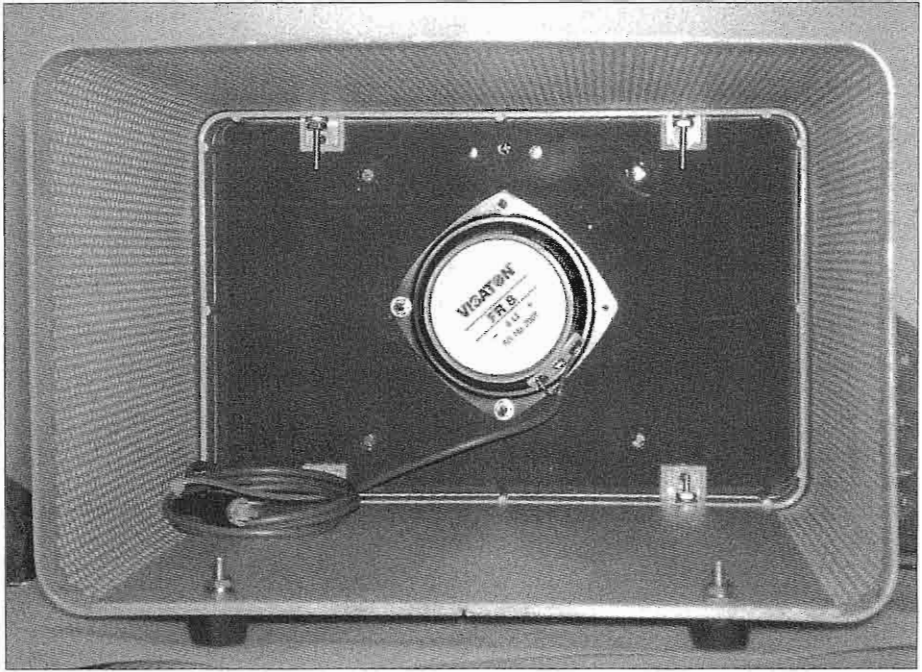

Figure 3: Rear view of the assembled 516F-2 kit.
**Figure 3** is the speaker shown from the rear of the cabinet. Hidden behind the coil of speaker wire on the left of the speaker is a nylon clamp that acts as a strain relief for the speaker wire. Be sure to bolt that clamp down on either of the bolts that attach the standoffs to the case. Now the completed cabinet is ready to house that homeless 516F-2 power supply and play beautiful music for the S-line or KWM-2.